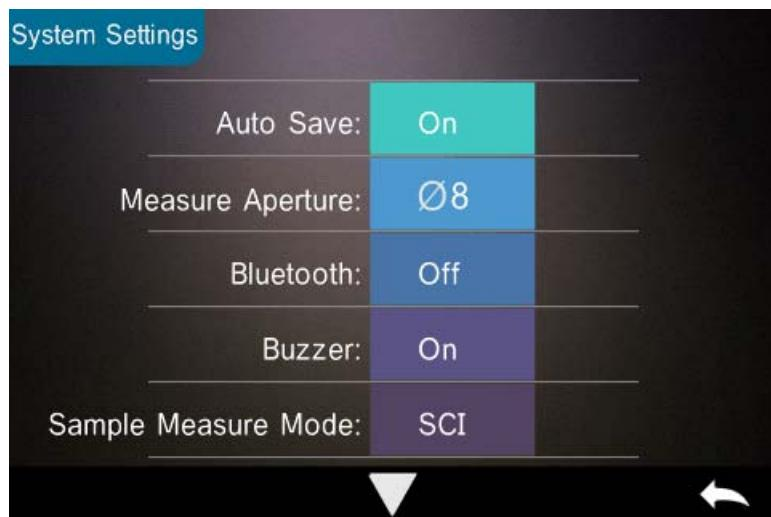
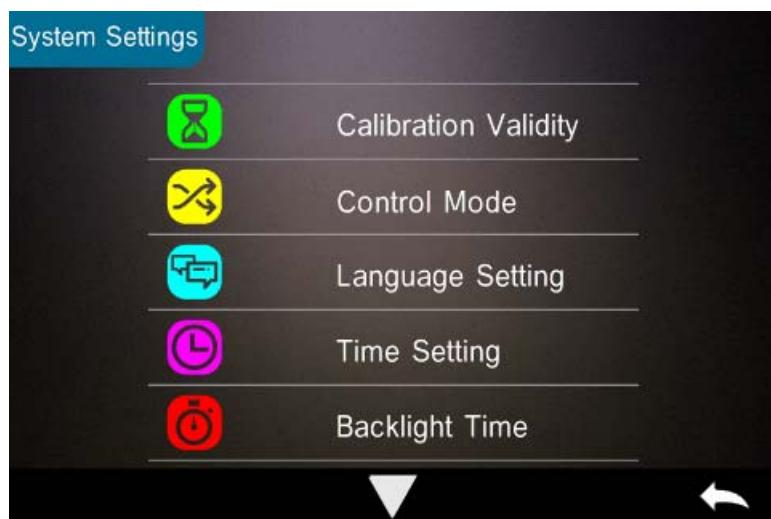
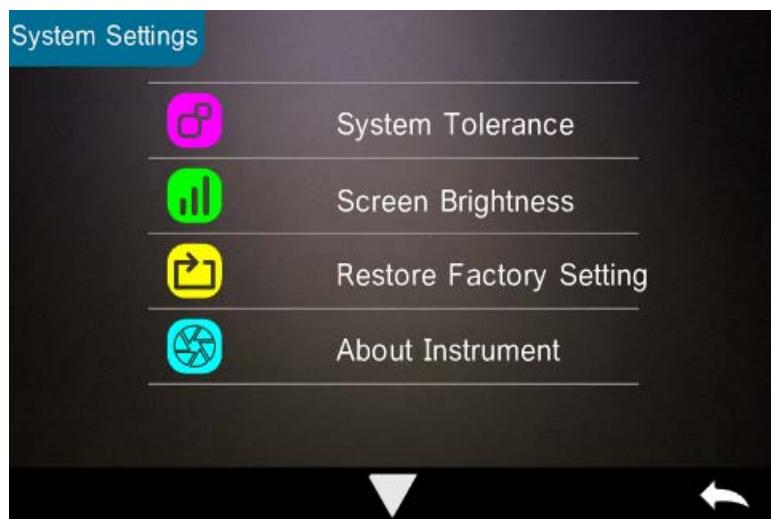

Figure 44 System Settings
Figure 45 System Settings
Figure 46 System Settings
In the main menu, click “System Setting” as shown in Figure 44, Figure 45 and Figure 46.
Step 3: Switch the default system measurement aperture to correspond with the actual measurement aperture. As shown in Figure 44, the current measurement aperture is $\Phi 8\text{mm}$. After switching the measurement aperture, you have to re-calibrate the instrument according to part 2.2.